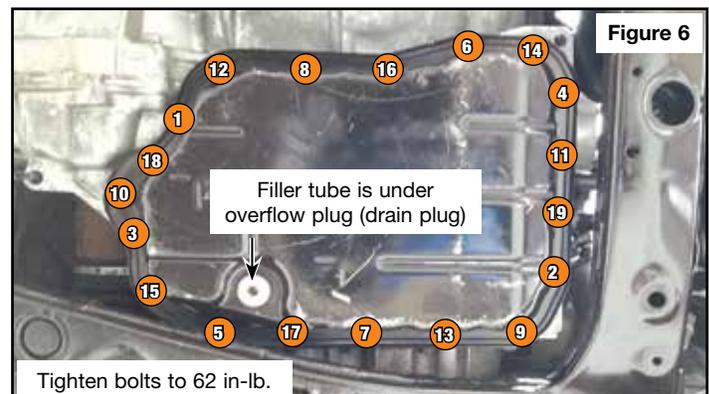

Figure 6
- Install pan and tighten (19) bolts in a criss-cross pattern to 62 in-lb (**Figure 6**).
- Install transmission filler tube into pan and tighten to 7 in-lb (**Figure 6**).
- Temporarily install overflow plug (**Figure 6**).